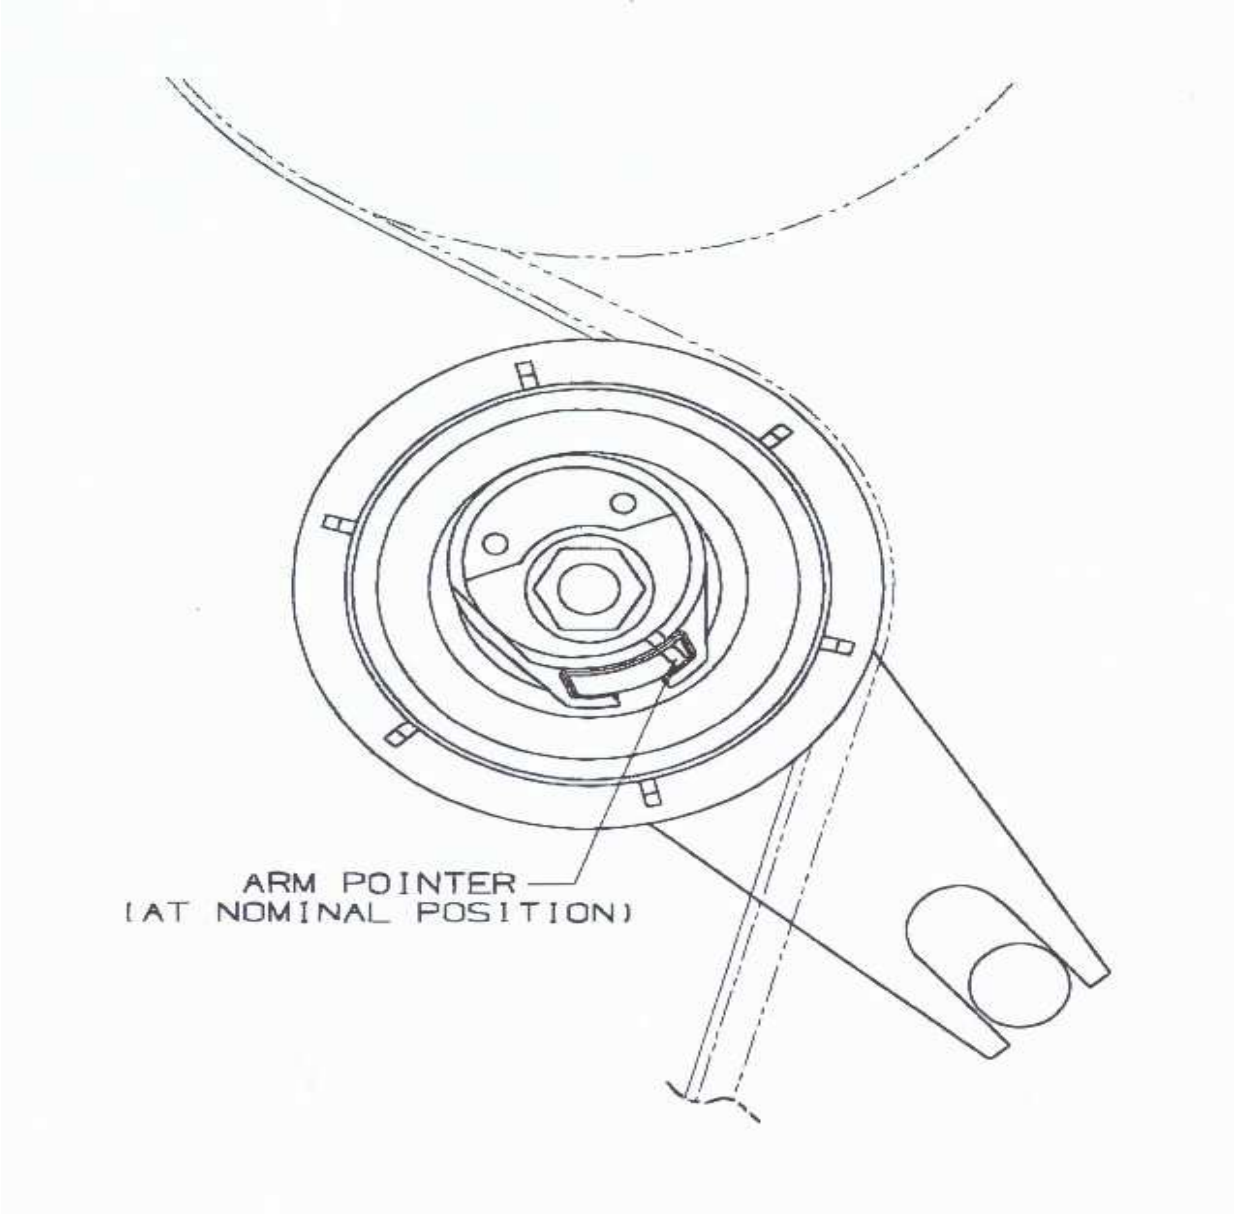

Figure 6: Verification of Tensioner Installation
- If the *Arm Pointer* still aligns with the *Nominal Position Notch*, the installation is complete (See Figure 6).